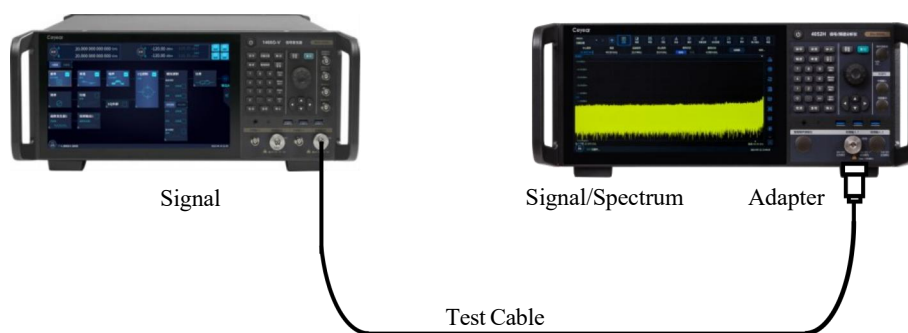

Figure 4.20 Burst power measurement connection settings
**Step 2. Connect the RF output port of the signal source to the RF input port of the analyzer, as shown in Figure 4.20:**